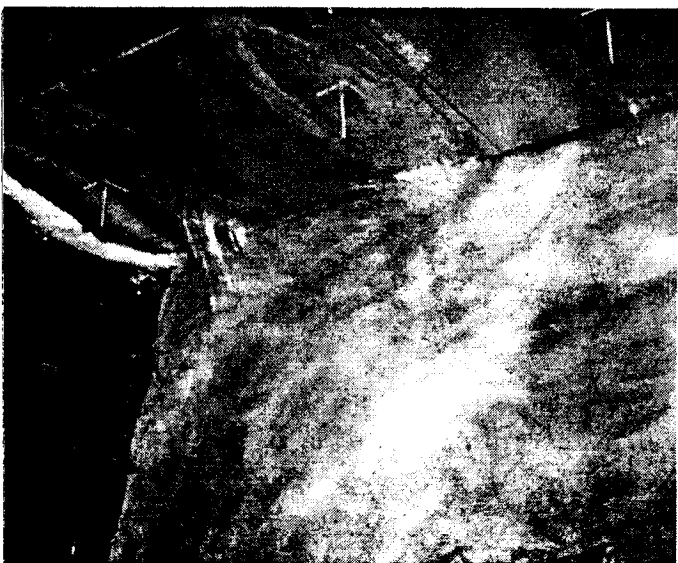

Figure 5
- c. Insulation for rectangular, round and oval ducts shall be attached to all ducts by applying class 2 adhesive around the entire perimeter of the duct in 6 inch wide strips 12 inches on centers. See figure 5.
- f. Insulation shall be impaled on the mechanical fasteners and pressed into the adhesive. See figures 5 and 8.
- c. Insulation shall be attached to all rectangular, round and oval ducts by applying class 2 adhesive around the entire perimeter of the duct in 6 inch wide strips on 12 inch centers. See figure 5.